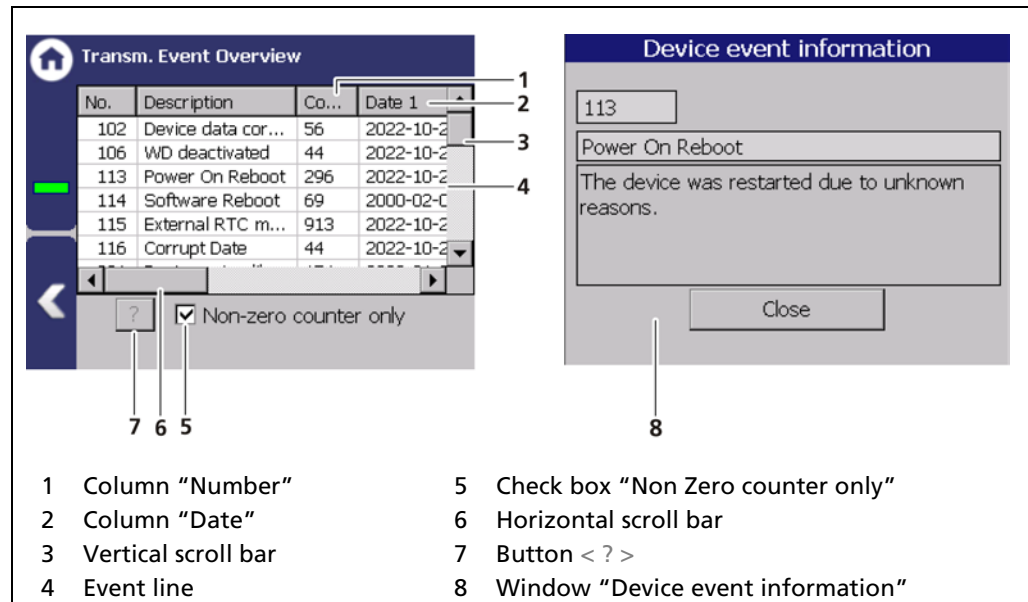

Fig. 123 Transmitter Event Overview
All events that can be logged are chronologically presented in tabular form in the window "Event overview". Activate the check box "Non-zero counter only" (Fig. 123, item 5) in order to display events that have occurred.
1. Click on a line in the list (Fig. 123, item 4).
2. Click on < ? > (Fig. 123, item 7).
- ▶ The window event information (Fig. 123, item 8) appears.
4. Slide the bar of the horizontal scroll bar (Fig. 123, item 6) to the right to see at what times (date, time) the event occurred.